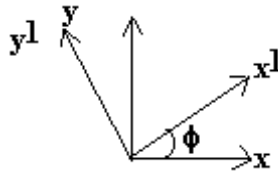

Figure 1:
1. Derive the Equation for M.I. about rotational axes when rotated by an angle  $\theta$  about x-axis. Shown in figure 1. [16]